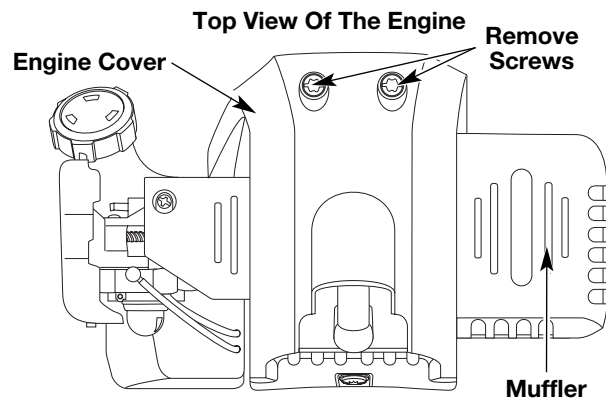

Fig. 63
2. Remove the two (2) screws on top of the engine cover with a Flat-head or T-25 Torx screwdriver (Fig. 63).
- Remove the engine cover (Fig. 63).